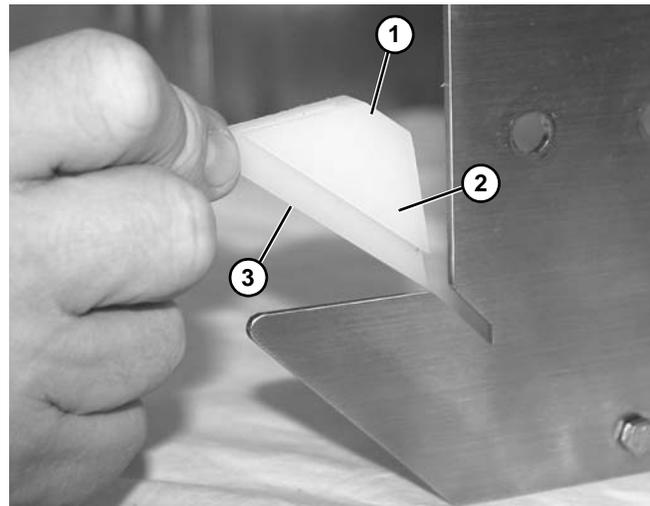

Figure 57
- Remove belt support J-Legs (**Figure 57, item 1**).
Before installing shoe, make sure narrow surface (**Figure 57, item 2**) of J-Leg is to the outside, and wider surface (**Figure 57, item 3**) is installed toward the inside of conveyor.